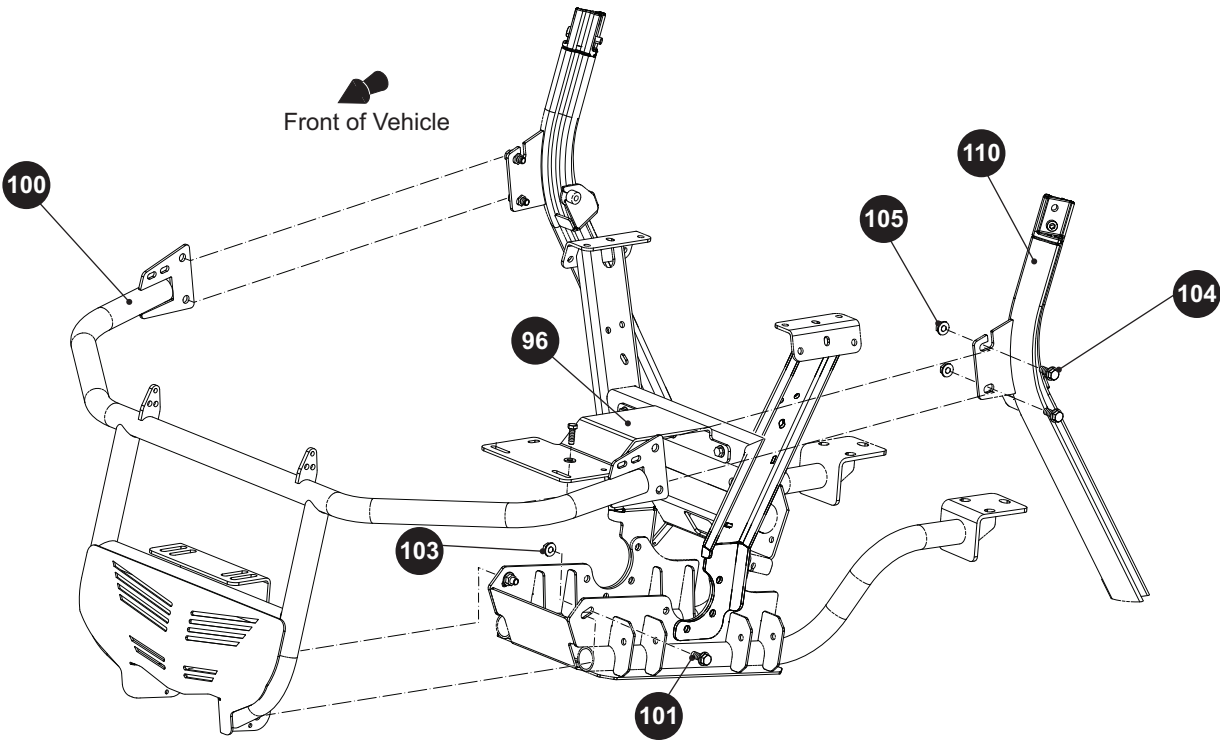

Fig. 12 Brush Guard Removal
1. Remove the bolts (101) and lock nuts (103) from the brush guard (100) (Ref. Fig. 12).
2. Remove the bolts (104) and lock nuts (105) to remove the brush guard (100) from the vehicle.